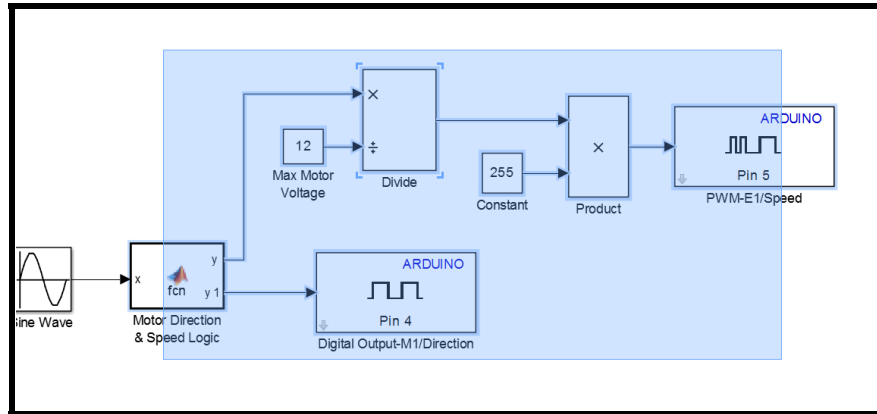

Figure 3.3: Select Motor Control Blocks
13. Click and drag over the motor control blocks as in Figure 3.3. Then press Ctrl+X to cut the blocks.